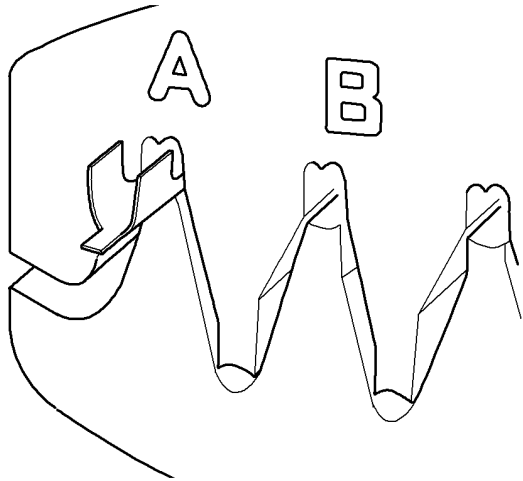

Figure 3 Crimping the terminal.
2. **Figure 3.** Insert the terminal into the appropriate position of the crimp tool and close the tool enough to hold the terminal.